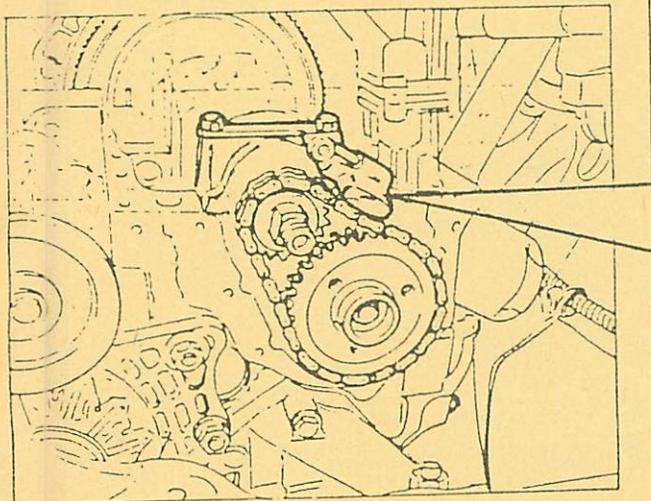

FIG. 2
- Fit shoe-bracket assembly under support no. 1 of crankshaft (see fig. 2)